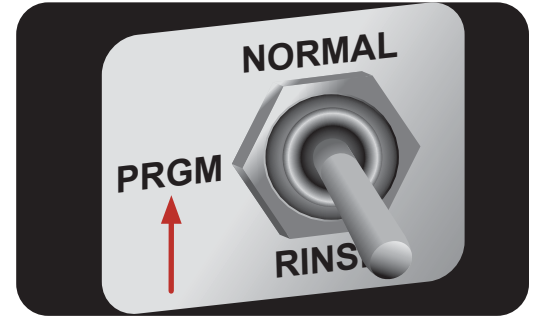

Figure 1
Style: Adjustment Knob (Figure 1)
1. Open the door and place the NORMAL/PROGRAM/RINSE switch in the PROGRAM position. (Figure 1)